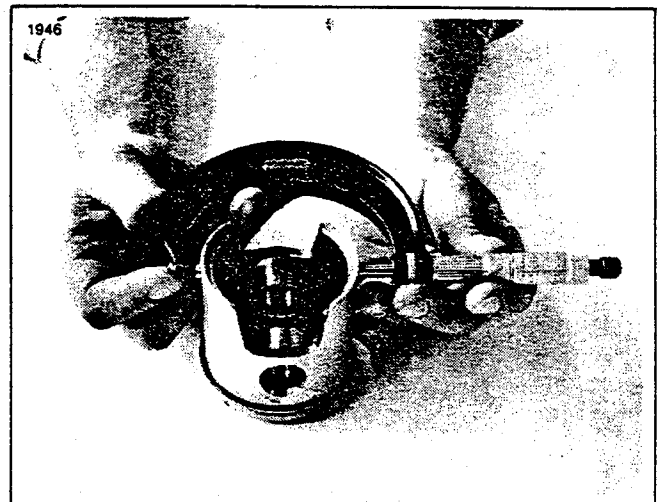

Figure 5-11. Measuring Piston
4. See Figure 5-11. Measure piston at bottom of skirt, 90° from piston pin bore.